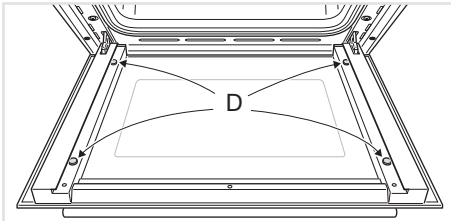

Fig. 12.21
- Check that the four rubber pads are in place ("D" in fig. 12.21).